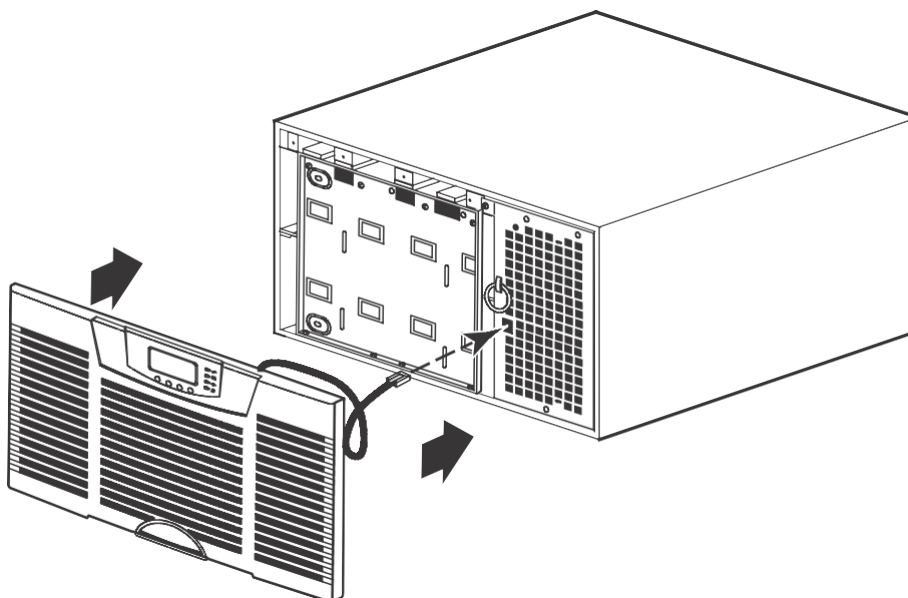

Figure 87. Replacing the UPS Front Cover
9. Replace the UPS front cover (see Figure 87):
7. Replace the UPS front cover (see Figure 87):